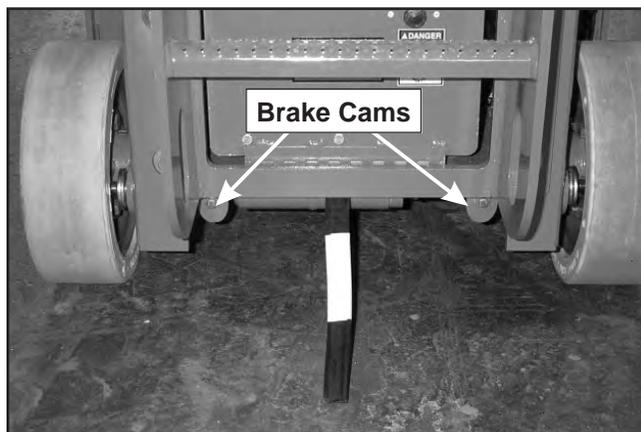

Figure 10.2—Brake Release Cams
5. Use a  $\frac{7}{8}$ " wrench to rotate each brake release cam 90° (refer to Figure 10.2). Rotate the cam on the right brake cylinder counterclockwise and the one on the left brake cylinder clockwise. This will retract the brake pins from the wheel lugs releasing the brakes. Remove the wrench.